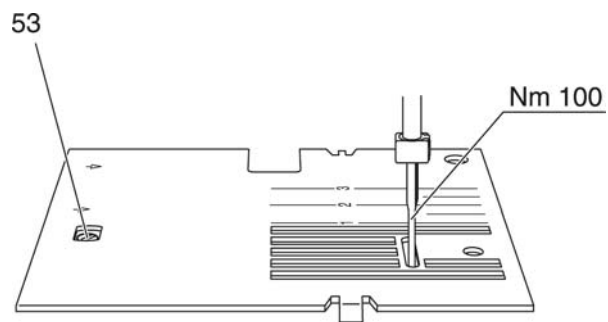

Fig. 12b
- Turn setting eccentric 53 until the clearance from the front and rear edge of the needle plate hole is the same (fig. 12b).